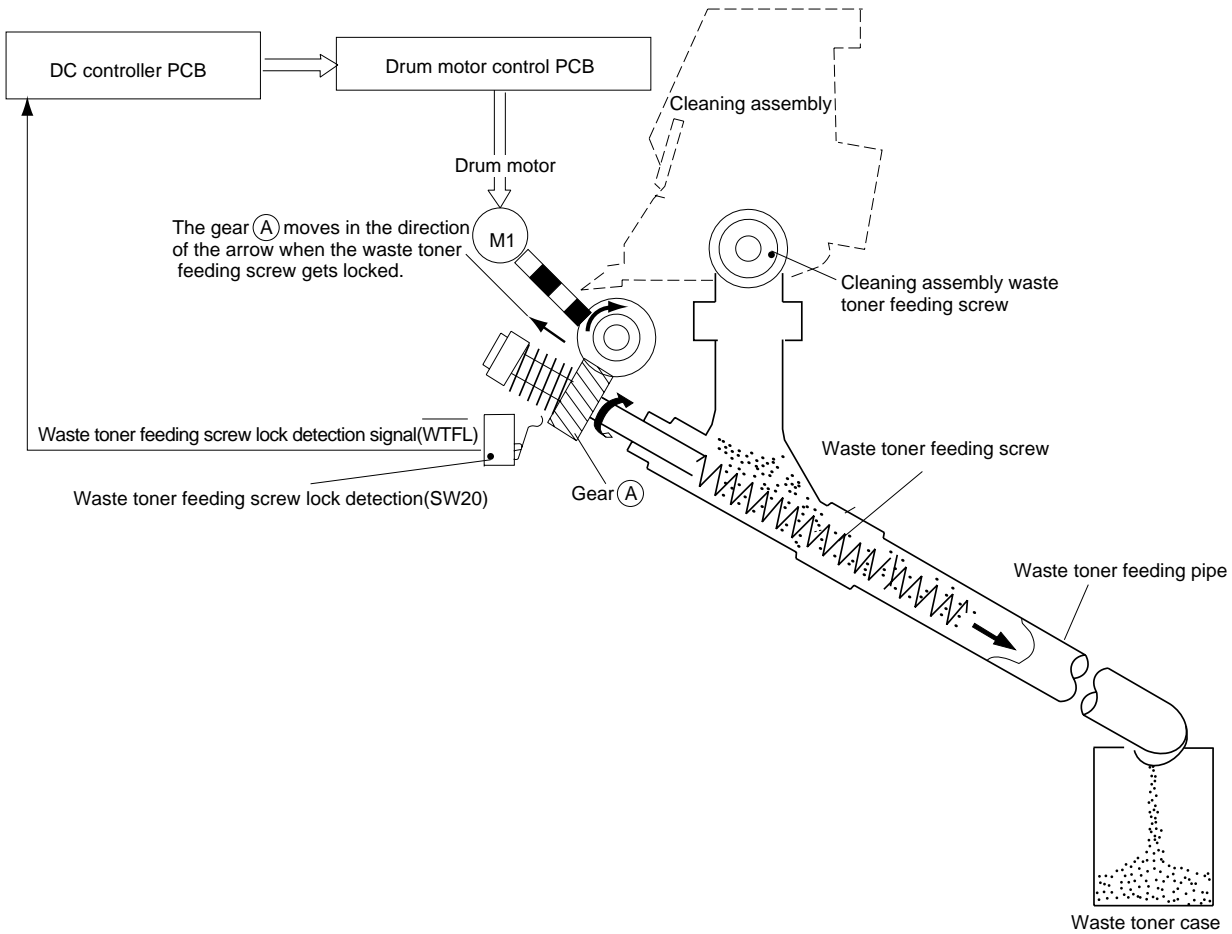

Figure 3-330 (rear view)
The gear (A) (Figure 3-330) used to drive the waste toner feeding screw is subjected to force in the direction of the shaft when the feeding screw gets locked, and the condition causes the gear to move on the shaft.